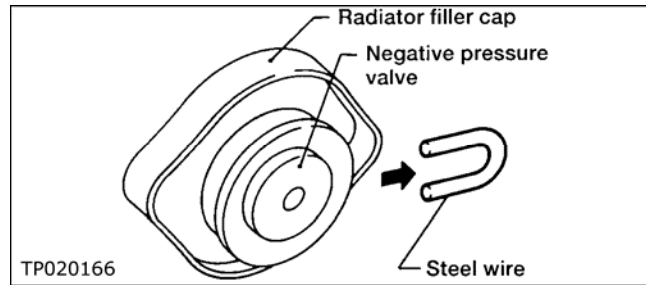

Figure 7
19. Remove the wire from the radiator cap (see Figure 7).